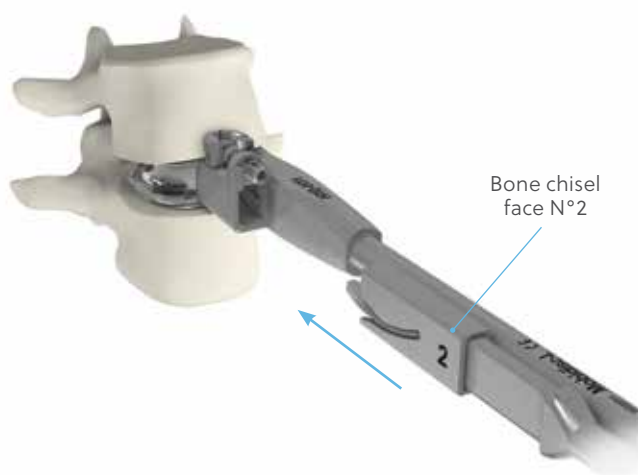

Figure 43
- The trajectory for the second anchoring clip is also prepared using the bone chisel. Take care to leave bone chisel face N°2 visible **(Figure 43)**.